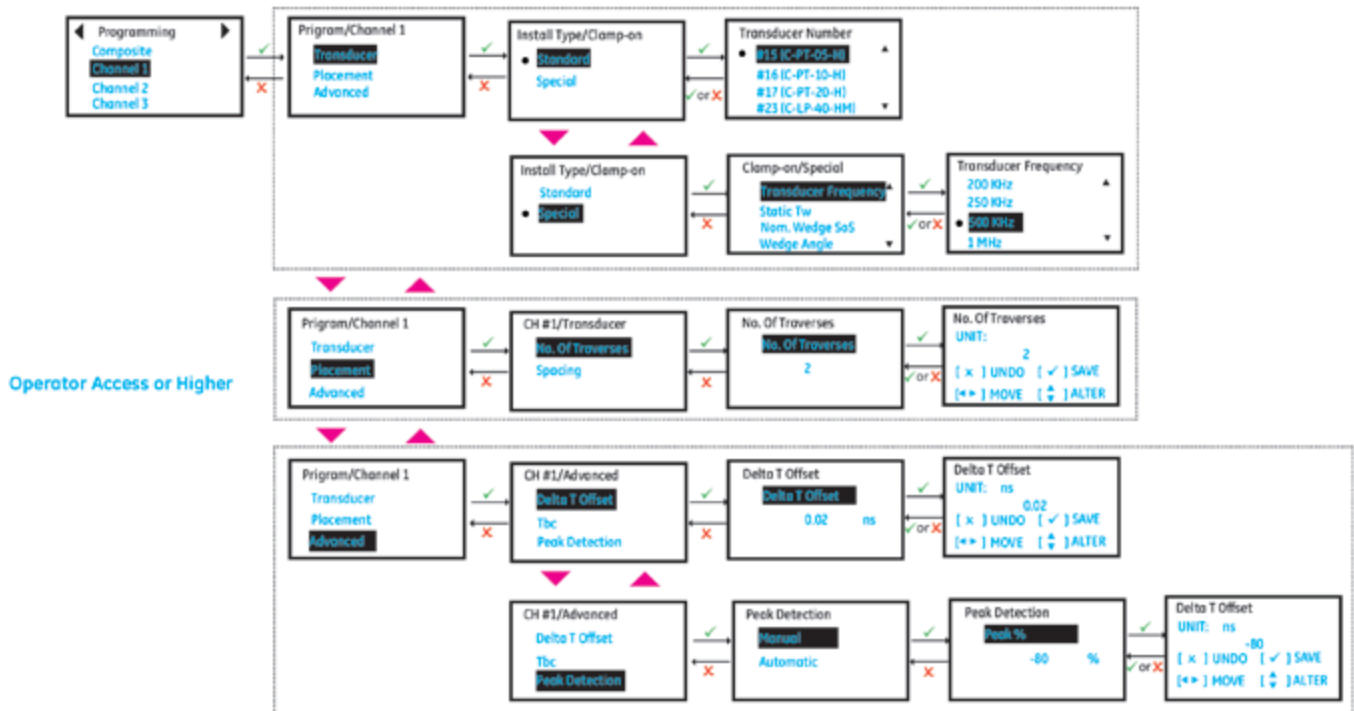

Figure 75: Channel programming (transducer, placement and advanced)
1. Refer to Figure 75, select [Placement] and press [ENTER].